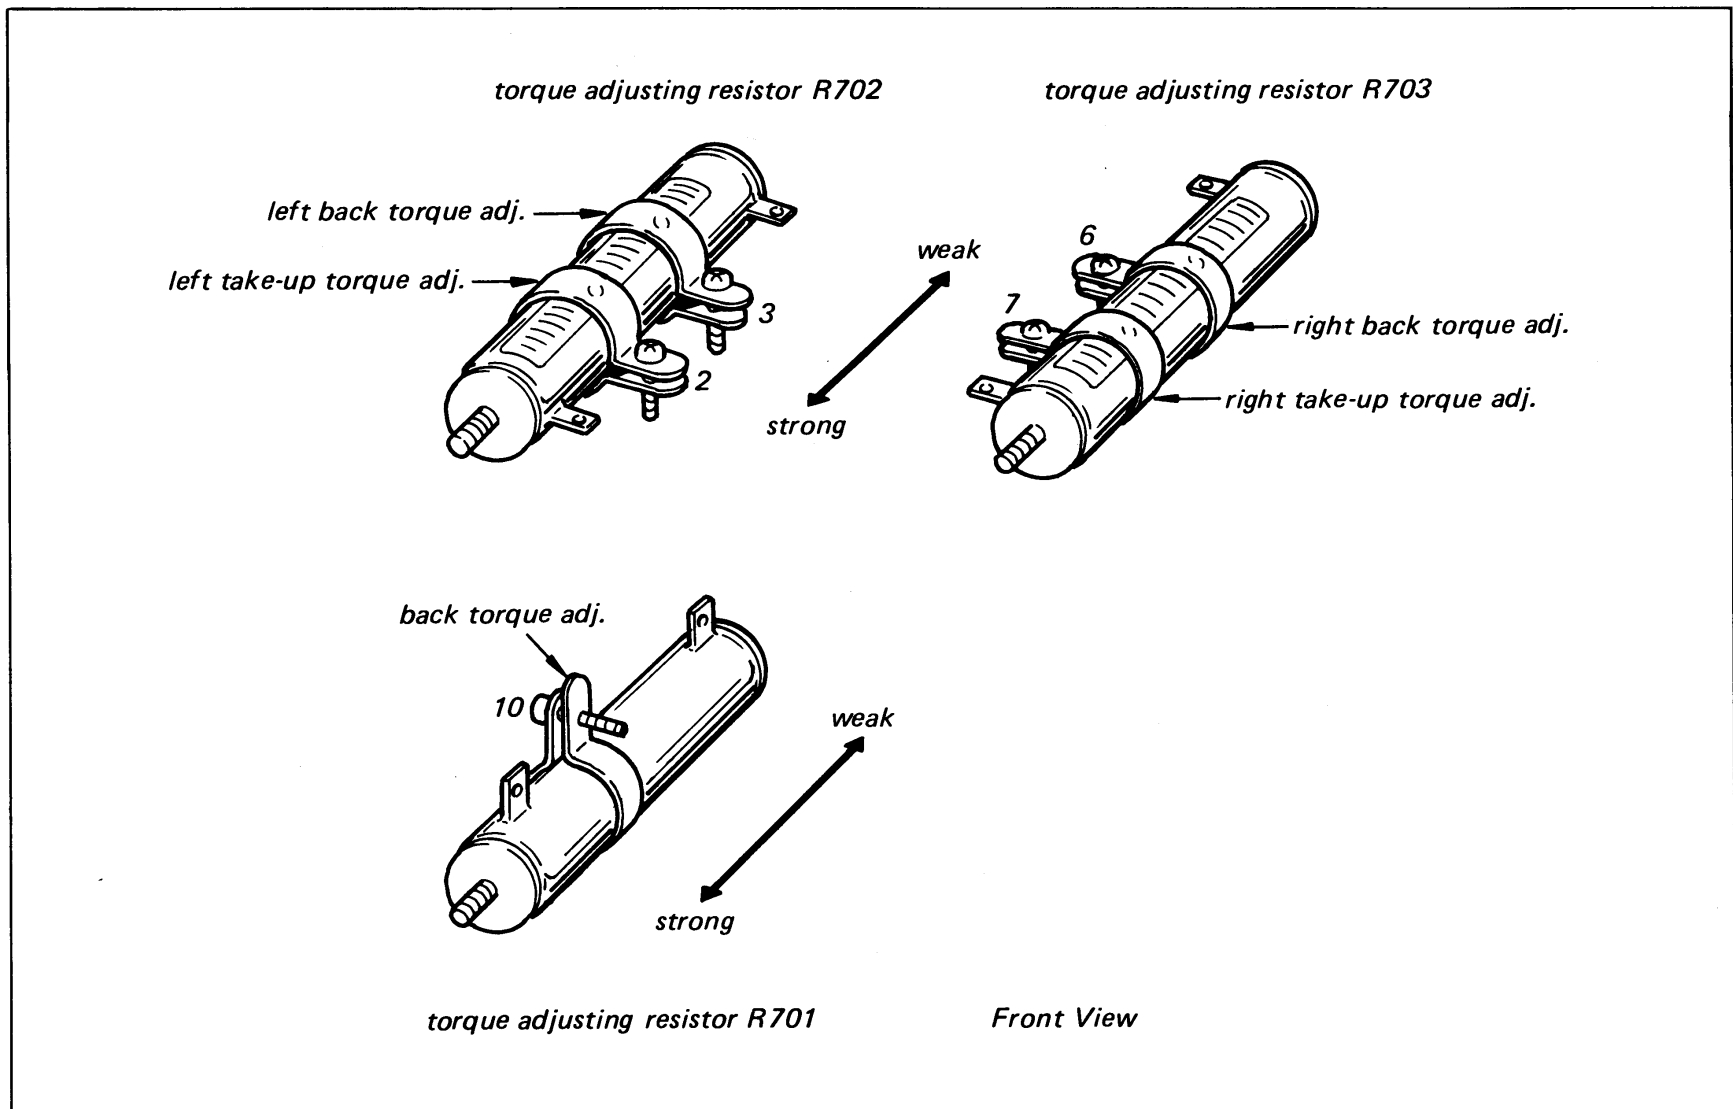

Fig. 3-3. Reel motor torque adjustment
① Left Back-Tension Torque Adjustment
- 4) Adjust a slider band 3 of the left torque adjusting resistor R702 (shown in Fig. 3-3) for a reading of 70 g.
② Right Back-Tension Torque Adjustment
- 4) Adjust a slider band 6 of the right torque adjusting resistor R703 (shown in Fig. 3-3) for a spring scale reading of 70 g.
① Left Take-up Torque Adjustment
- 4) Adjust a slider band 2 of the left torque adjusting resistor R702 (shown in Fig. 3-3) for a spring scale reading of 90 g.
② Right Take-up Torque Adjustment
- 4) Adjust a slider band 7 of the right torque adjusting resistor R703 (shown in Fig. 3-3) for a spring scale reading of 70 g.
- 2) Adjust the slider band 10 of torque adjusting resistor R701 (shown in Fig. 3-3) for a spring scale reading of 20 g.